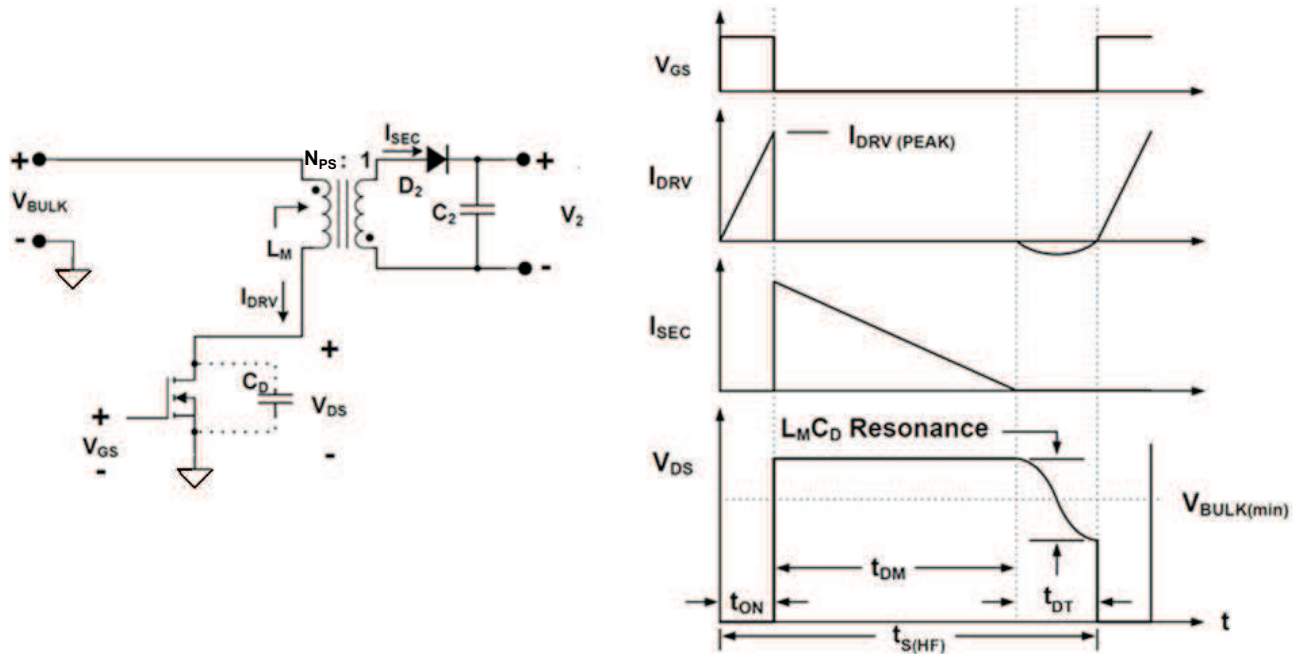

Figure 20. Basic Flyback Converter and Waveforms at Peak Load and Minimum V_{BULK} Voltage
To begin a power supply design, the power supply designer needs to know the peak power to be delivered by the converter, the input voltage range, the output voltage, and an estimate of the maximum allowable bulk voltage ripple. Select the maximum allowable stress voltage for the external power MOSFET. The stress voltage, V_{DS} , determines the reflected secondary voltage that resets the flyback transformer and the turn ratio between primary and secondary. A simplified diagram of the converter and its waveforms are shown in Figure 20.
The minimum switching period is when the converter is operating in the Frequency Modulation (FM) mode, referred to as $t_{S(HF)}$. This switching period must equal the sum of the switching intervals at minimum input voltage, maximum load, as shown in Figure 20 and described in Equation 1. The switching intervals are t_{ON} , the conduction time of the MOSFET; t_{DM} the demagnetization time of the transformer and t_{DT} , the duration of the deadtime, equal to half of the resonant cycle, after the transformer is de-energized.